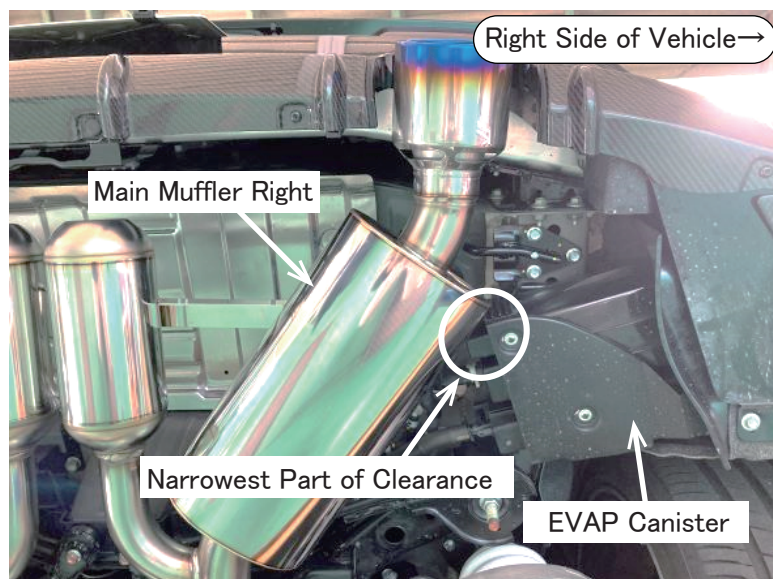
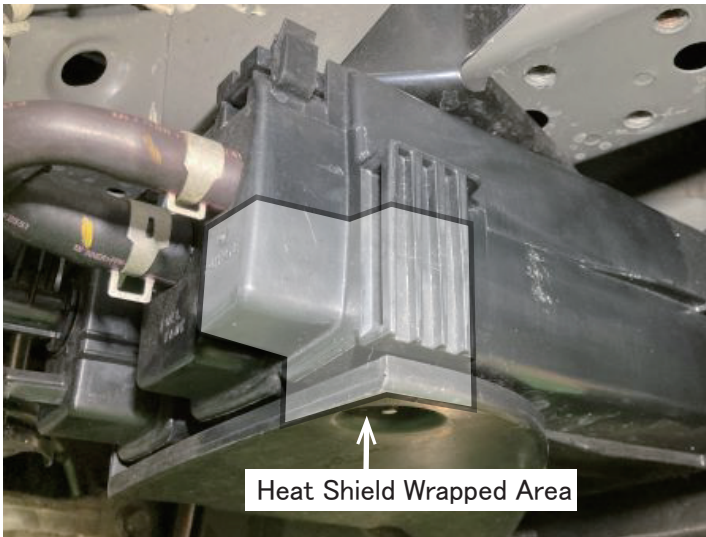

Fig.3 Place of Main Muffler Right and EVAP Canister
Fig.4 Heat Shield Wrapped Area for EVAP Canister
- (1) The clearance between main muffler right and the EVAP canister is partially narrow. (Fig.3 Round Part) Wrap the attached heat shield within the area shown in Fig. 4 and make heat insulation treatment.